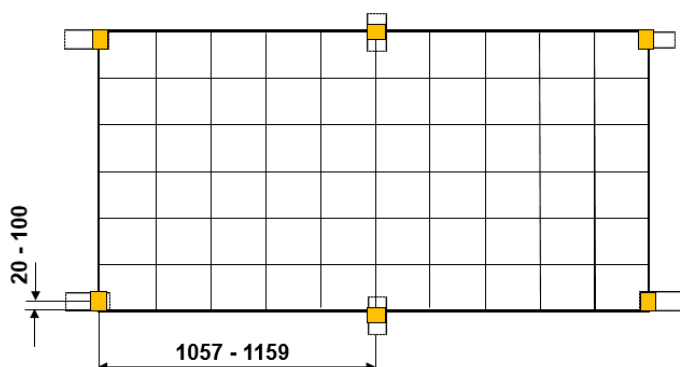

Fig. 1: Principle drawing of module mounting
2. The recipient of this Authorization Document ("Customer") is permitted to mount the below listed modules using 2 clamps at both of the short module sides ("CL2b" in the installation manual for the module) and 1 additional clamp in the middle of each long module side without rail with the following specifications in Table A and Figure 1.